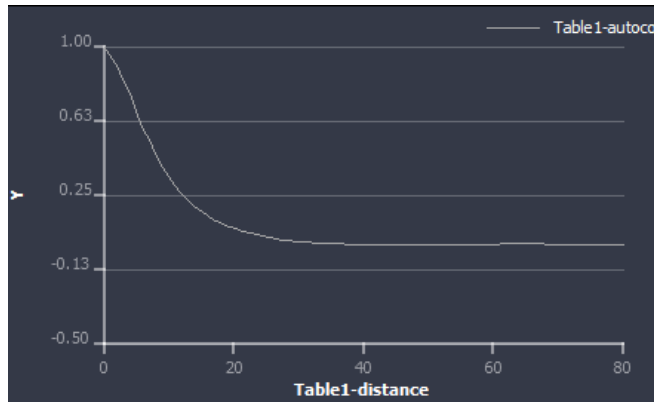

Figure 23.4: Autocorrelation versus Distance Plot
- Plot the autocorrelation versus distance. The autocorrelation decreases progressively until an asymptote is reached. The distance from which this asymptote reaches about 30 voxels is the range of the microstructure. A rule of thumb for an optimal subset size is to take about 3-4 times this value. We will use 110 voxels in this study (see Figure 23.4).